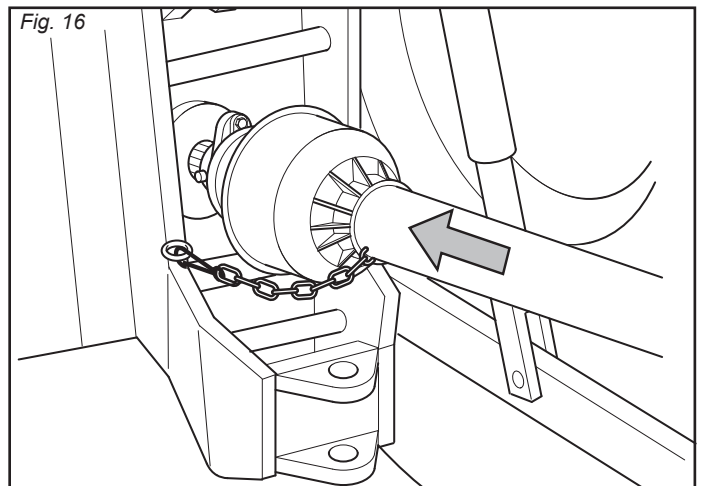

Fig. 16
- 5 - Engage the cardan shaft and check that it is perfectly locked on the pto. Check that the guard is free to turn and fix it with the relative latch (Fig. 16).